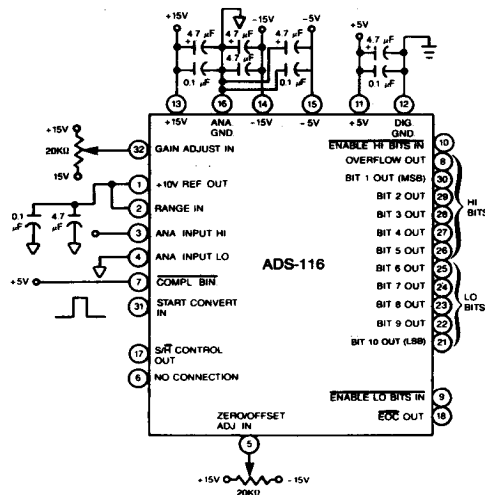

Figure 3. ADS-116 Typical External Connections, ± 10V dc
1. Connect the converter per Figure 3 and Table 2 for the appropriate full-scale input range (FSR). The data outputs should be connected to LED's to observe the resulting data values.